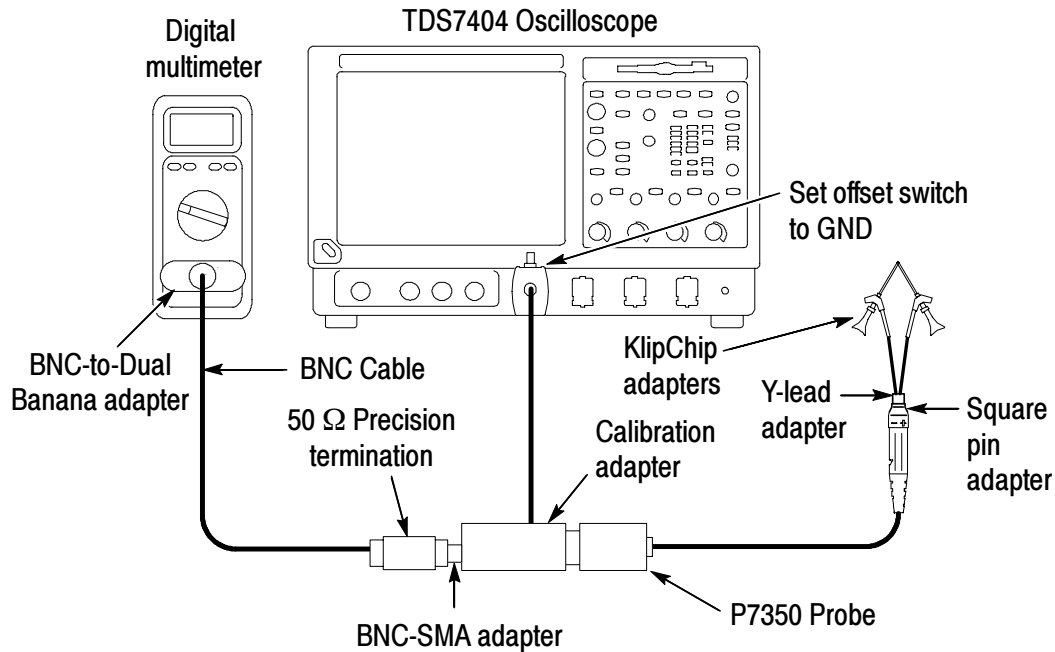

Figure 21: Setup for the output offset voltage test
1. Connect the equipment as shown in Figure 21.